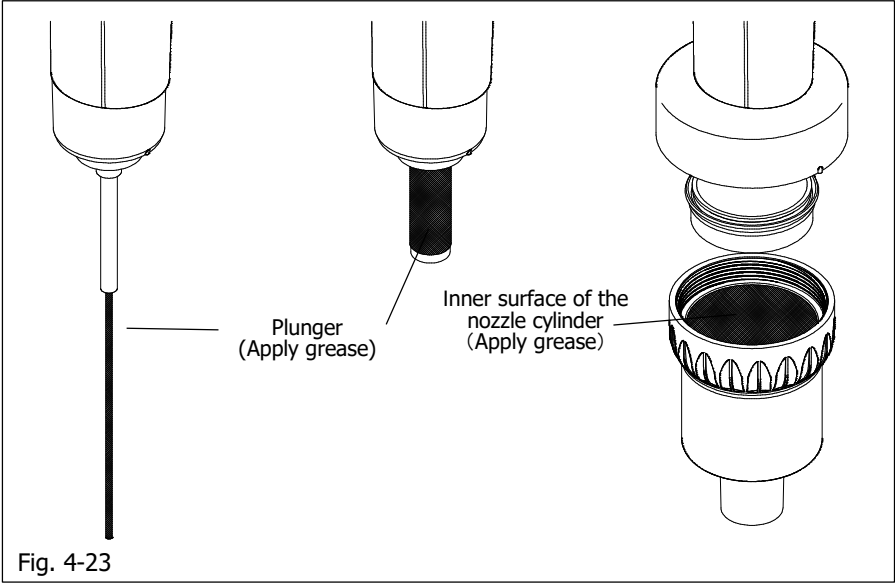

Fig. 4-23
Depress the push button to expose the plunger, and apply a thin layer of the supplied grease to it. (Fig. 4-23) Shaded in gray.
- 5000 μ L, 10000 μ L (Fig.4-23)
Apply the supplied grease thinly to the specified location onto the inner surface of the nozzle cylinder. (Fig.4-23) Shaded in gray.